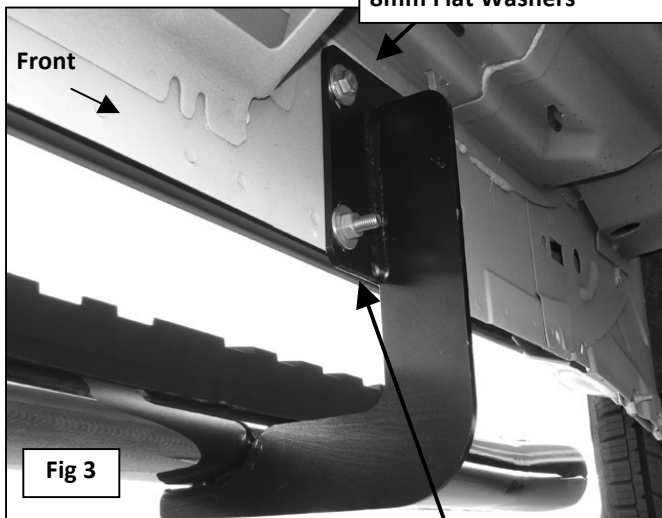

Fig 3
4. Partially attach the passenger side front Mounting Bracket to the Clip Nuts using the included (2) 8mm x 30mm Hex Bolts, (2) 8mm Lock Washers and (2) 8mm Flat Washers, **(Figure 3)**. **NOTE:** Cradles on the Mounting Brackets should face the front of the vehicle.
5. Bolt the (2) bottom holes in the Mounting Bracket to the (2) holes in the pinch weld using the included (2) 8mm x 30mm Hex Bolts, (2) 8mm Lock Washers, (4) 8mm Flat Washers and (2) 8mm Hex Nuts, **(Figure 3)**. Do not tighten hardware at this time.
7. Carefully unwrap and position the Sidebar onto the (2) Mounting Brackets. Bolt the Sidebar to the Brackets with (4) 8mm x 25mm Hex Bolts, (4) 8mm Lock Washers, and (4) 8mm Flat Washers, **(Figures 3 & 4)**. Do not tighten at this time.